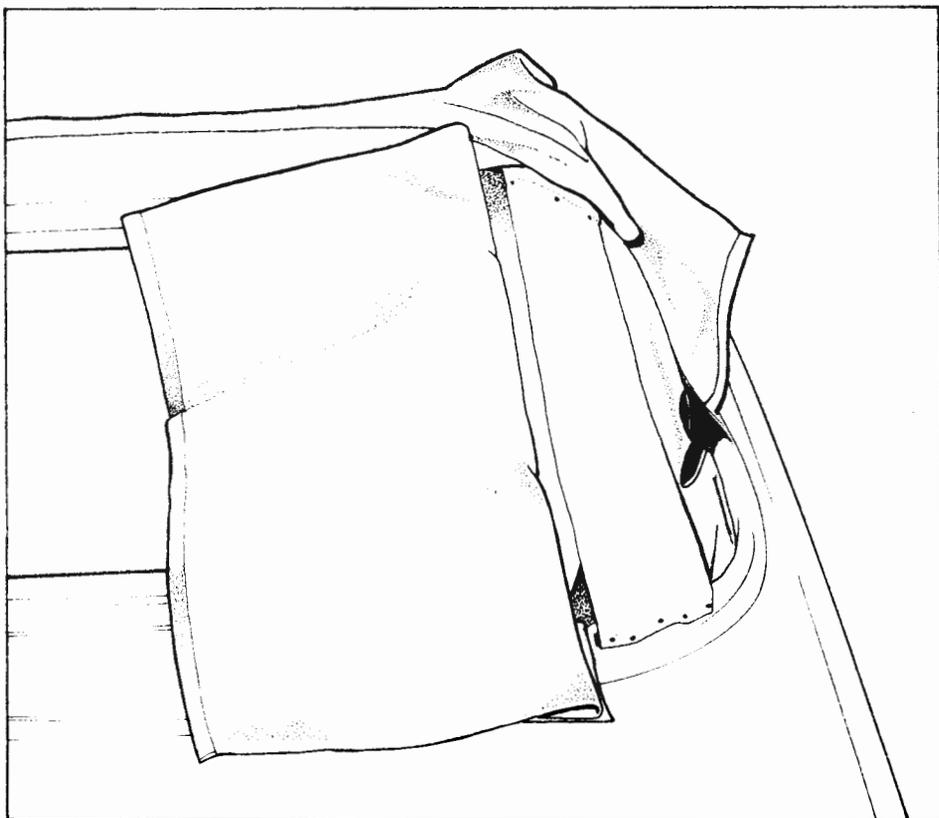

Fig. P10B
4. Fold each side of the backlight fabric to the centre once more and lay both the rubberised strips of webbing over the rear bow and lower tacking strips. Pull taught and tack. (See fig P10B).